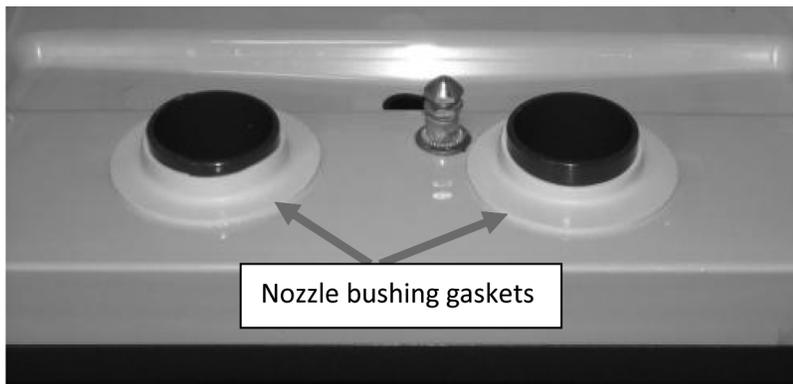

Figure 16. Nozzle bushing gaskets - proper installation
1. Remove natural rubber nozzle bushing gasket (see Figure 16) and inspect it and silicone RTV. If cracked, clean off RTV, and re-apply using kit P/N 729011013 per instructions provided with kit.